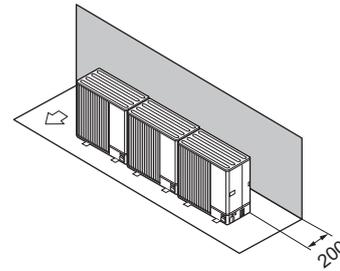

Fig. 1-12
- (1) Obstruction or closed surface at rear only (Fig. 1-12)